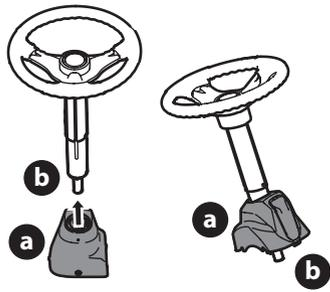

Figure 1
1. Slide the pedestal cap (a) onto the steering shaft (b) so that when the steering shaft (b) is installed on the riding mower, the pedestal cap (a) will be upright (Figure 1).